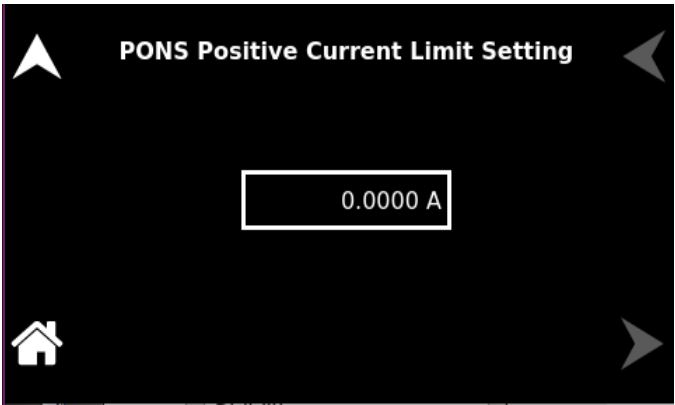

Figure 9-121. PONS Positive Current Limit Settings
**PONS Pos. Curr Limit** Users can set a positive current limit value and which functions as a trip limit. Refer to Figure 9-121.